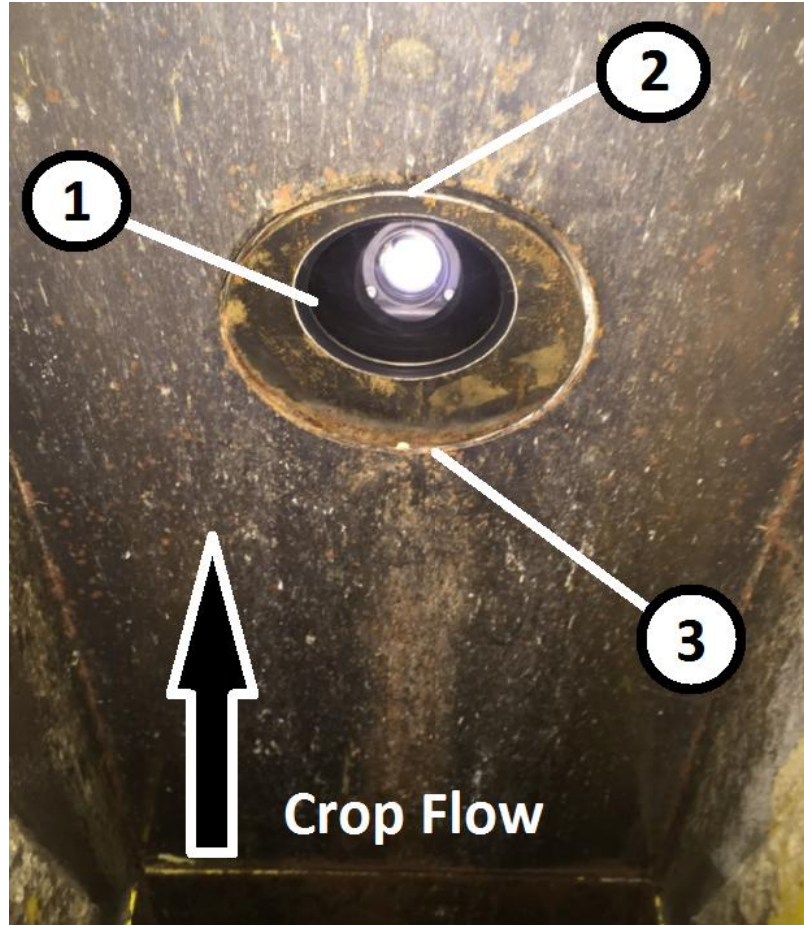

Figure 45. Lens Alignment
3. Once installed, the lens must be approximately flush at the leading edge of crop flow and set into the spout about .040" (1mm) at the trailing end of crop flow. See Figure 45. Adjust as necessary. Close any access panels after service. Remember to inspect lens position and cleanliness at the start of any trials and periodically throughout the day. In dry crop conditions, the lens may not stay wet enough to clean itself with crop flow, so lens cleaning is more important.